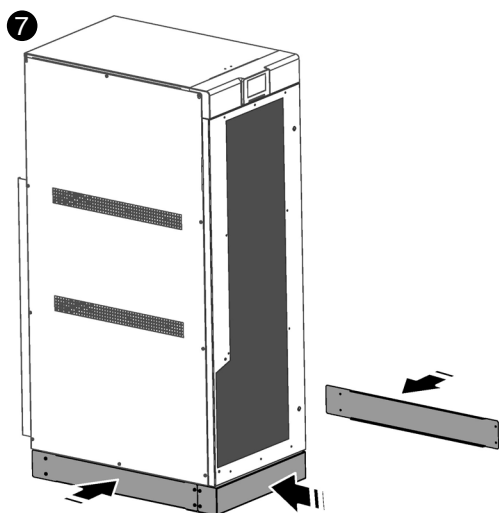

Fig. 34. Mounting the base sockets of the equipment in their final location.
- ❼ Refit the 4 sockets on the base of the equipment (Fig. 34).